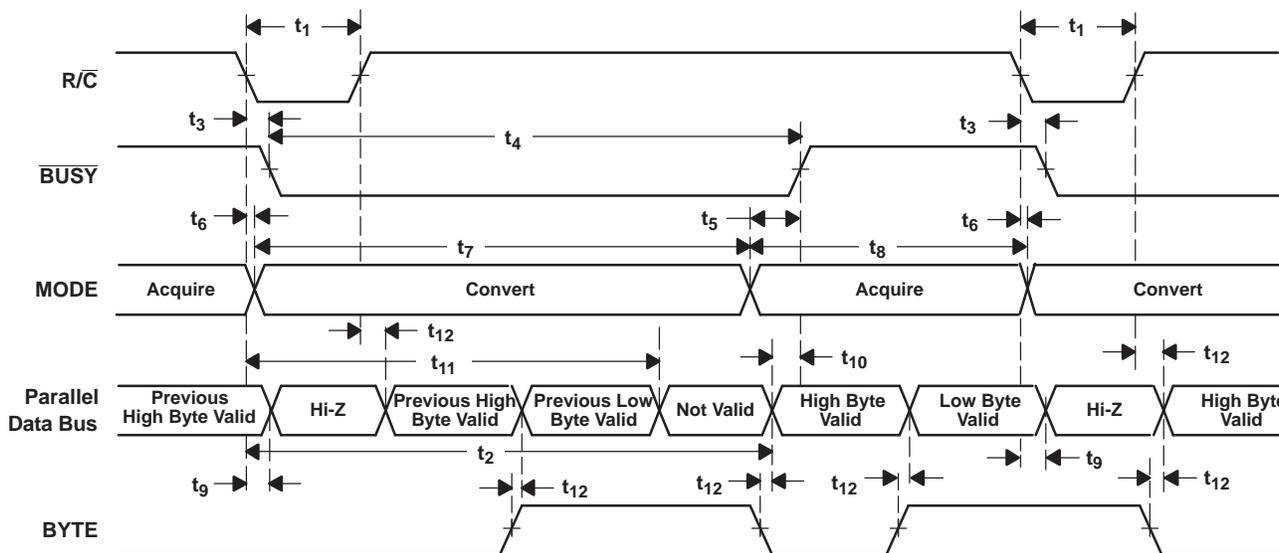
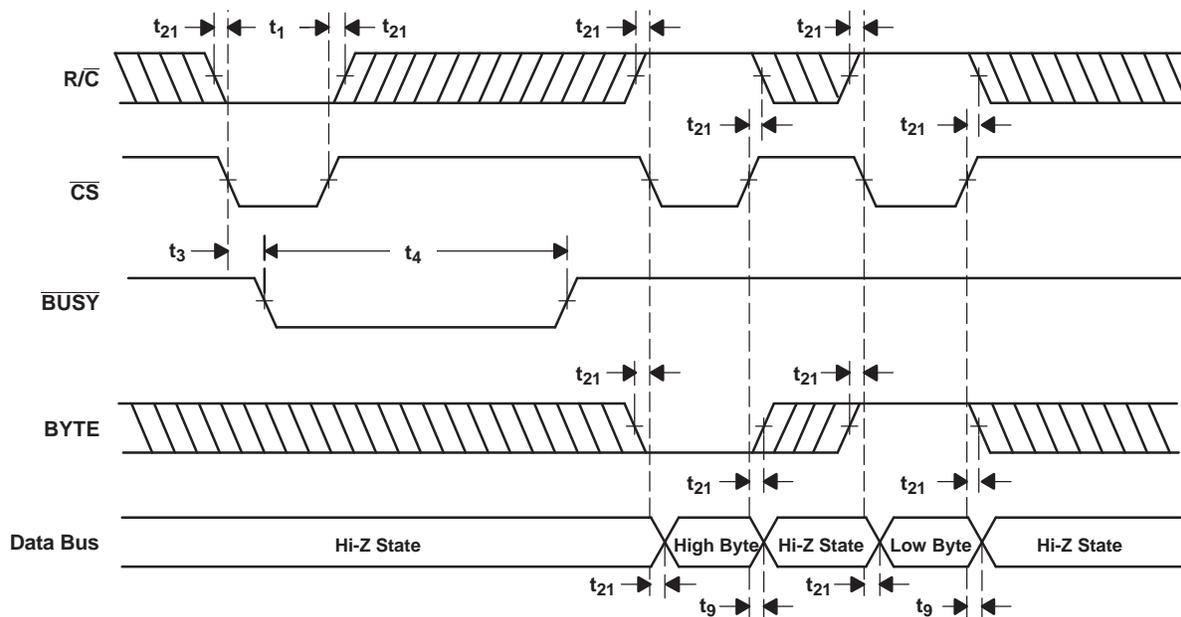

Figure 33. Conversion Timing With Parallel Output ($\overline{\text{CS}}$ and DATACLK Tied Low, $\overline{\text{EXT/INT}}$ Tied High)
Figure 34. \overline{CS} to Control Conversion and Read Timing With Parallel Outputs
The ADS8507 begins tracking the input signal at the end of the conversion. Allowing 25 μ s between convert commands assures accurate acquisition of a new signal. Refer to Table 2 and Table 3 for a summary of \overline{CS} , R/\overline{C} , and \overline{BUSY} states, and Figure 33, Figure 34, Figure 35, Figure 36, Figure 37, Figure 38, and Figure 39 for timing diagrams.
(1) See Figure 33 and Figure 34 for constraints on data valid from conversion $N-1$.
After conversion N is completed and the output registers have been updated, $\overline{\text{BUSY}}$ (pin 24) goes high. Valid data from conversion N is available on D7-D0 (pin 9-13 and 15-17). $\overline{\text{BUSY}}$ going high can be used to latch the data. Refer to Table 5 and Figure 33 and Figure 34 for timing specifications.
After conversion N has been initiated, valid data from conversion $N-1$ can be read and is valid up to $12\ \mu\text{s}$ after the start of conversion N . Do not attempt to read data beyond $12\ \mu\text{s}$ after the start of conversion N until \overline{BUSY} (pin 24) goes high; this may result in reading invalid data. Refer to Table 5 and Figure 33 and Figure 34 for timing constraints.